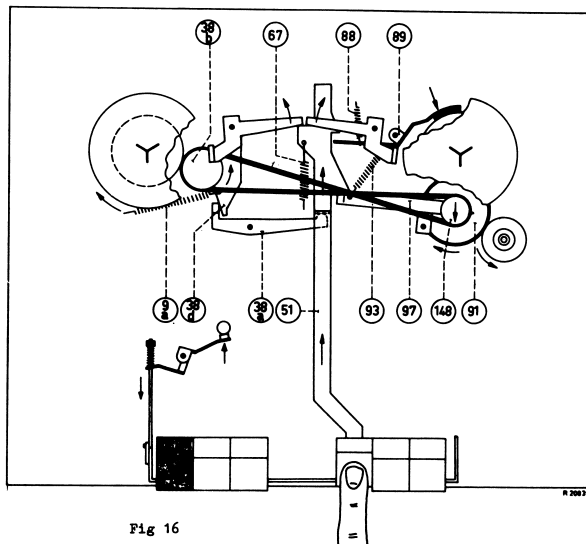

Fig 16
N.B.: In order to prevent looping of the tape, the right-hand reel disc will be braked first by brake 68 and then the left-hand reel disc by brake 56. This is possible because reel bracket 51 falls into a corresponding hollow in brake bracket 68 (fig. 16).